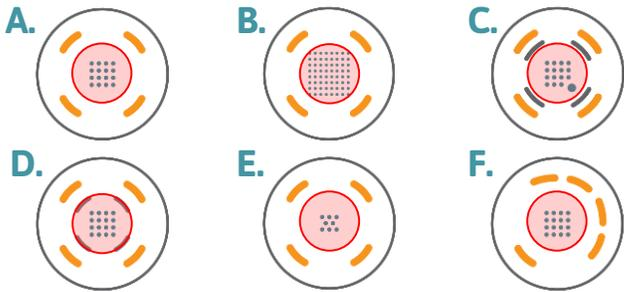

Figure 1: Drop Placement Diagram
2. Place a 10 μl drop of 0.1% PEI solution over the electrode array of each well in the MEA plate. See Figure 1 for appropriate drop placement.